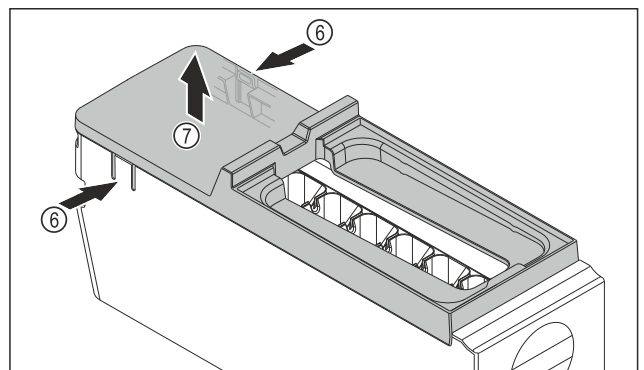

Fig. 131
- ▶ Removing the EasyTwist-Ice body cover: Push the tabs Fig. 131 (6) on both sides of the EasyTwist-Ice body with one hand.
- ▶ Use the other hand to remove the cover Fig. 131 (7) upwards.